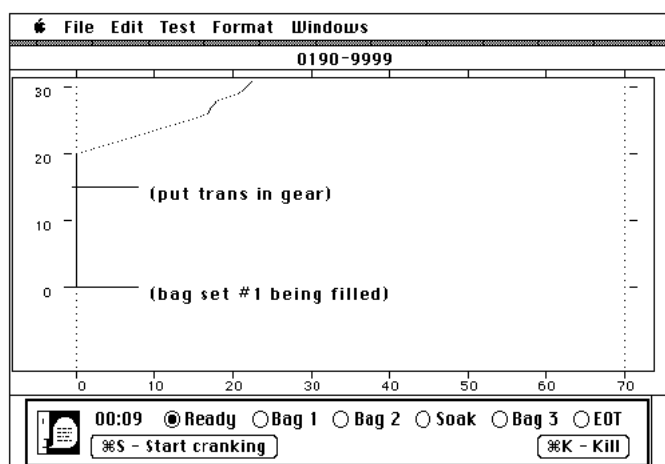

Figure 7
- 307 Press <Command S> to start the VDA trace scrolling. The crank time will be displayed on the left side of the dialog box. See Figure 7.